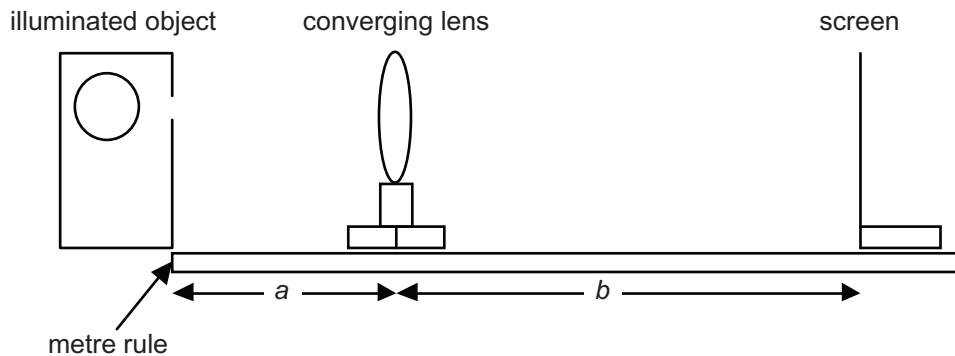
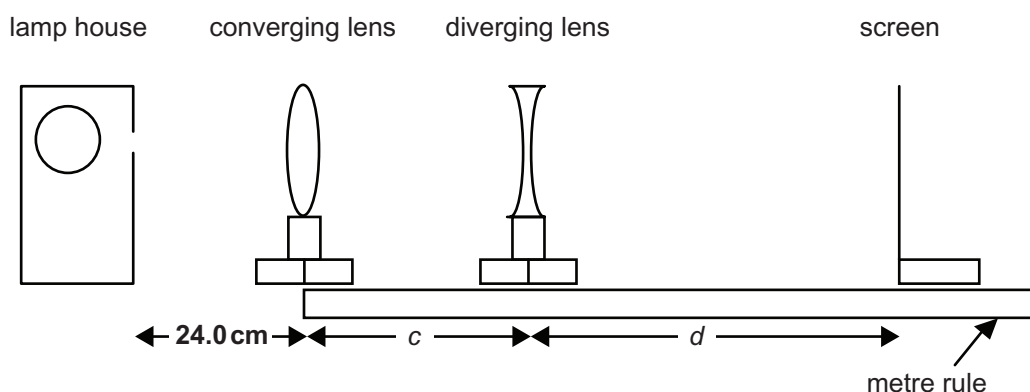

Fig. 1.1
Fig. 1.2
- (a) You are provided with an illuminated object, a converging lens in a holder, a screen and a metre rule, arranged as shown in **Fig. 1.1**. The illuminated object consists of two crossed lines with a flat circular ring. The lines are to assist focusing.
- (b) A diverging lens is introduced. Alter the optical bench arrangement of **Fig. 1.1** so that you have the arrangement shown in **Fig. 1.2**. **The converging lens must be placed 24.0 cm from the illuminated object and not moved from this position.**